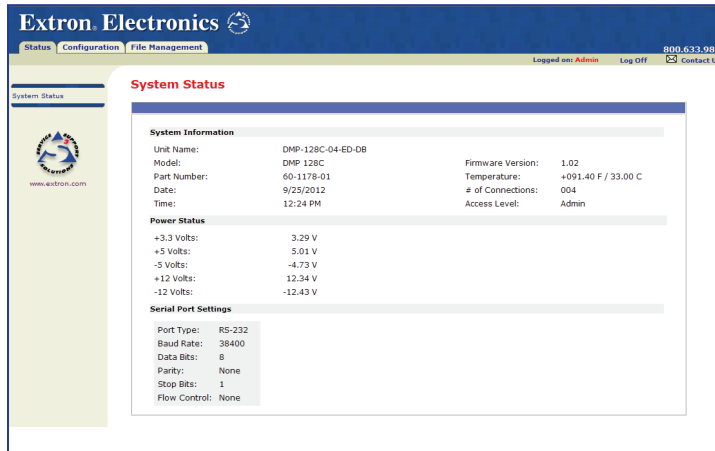

Figure 68. System Status Page
- c. **If neither of the above conditions is true**, the device downloads the factory-installed default startup page, "nortxe_index.HTML" (see figure 68 on the next page), also known as the System Status page.
The System Status page (see figure 68) provides an overall view of the status of the device, including system information, power supply status, and serial port settings. The System Status page is the default page when establishing a connection to the device. Access the System Status page from other pages by clicking the **Status** tab.